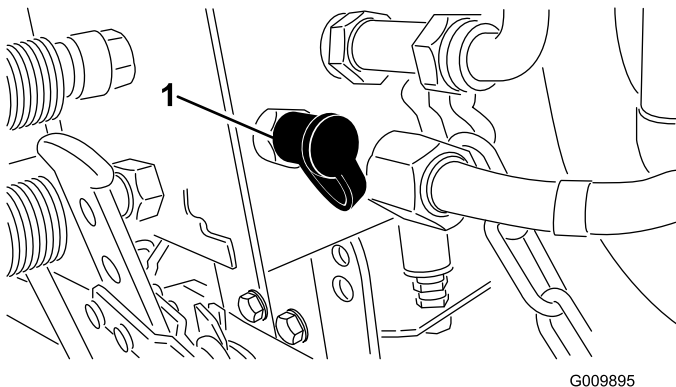

Figure 63
- Use Test Port #3 (Figure 63) to measure reel circuit pressure.